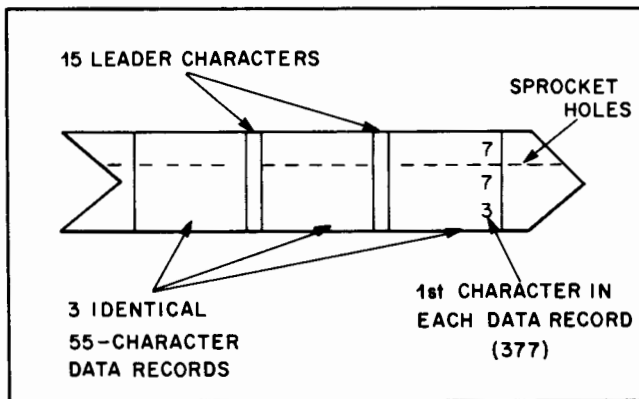

Figure 1. Standard Test Tape
22. The standard test tape is prepared on the teleprinter tape punch and represents the most difficult data pattern for both continuous and start-stop reading. The tape contains 3 identical 55-character data records with each record separated by 15 leader characters as illustrated in figure 1. The tape-ends shown in figure 1 are formed when the tape is torn from the teleprinter tape punch. The ends should be joined to form a continuous loop for continuous tape reader testing and an infinite number of data records. When splicing tape, butt ends of tape together with no overlap and join with a single layer of transparent cellophane tape.